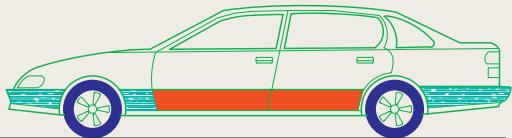

Fig. 8.23 Exercise 4
4. Fig. 8.23 is a front view of a car with parts hatched. Construct a similar drawing of any make of car, using hatching to emphasise the shape.